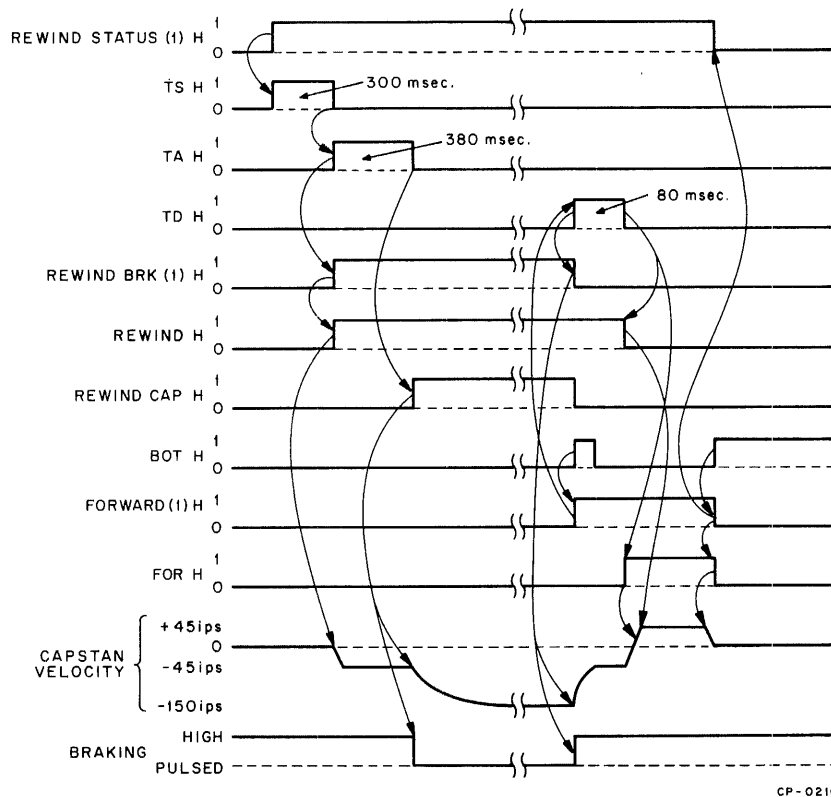

Figure 4-6 Rewind Sequence Timing
**4.1.3.5 Rewind Control** – Due to the limited rate at which the reels can be accelerated and decelerated, a special sequence of control signals must be generated to perform a high-speed rewind operation. The sequence is shown in Figure 4-6.